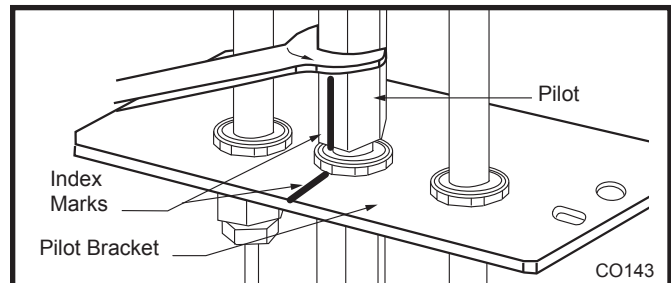

Fig. 69 Remove pilot hood. (Your pilot may have a different appearance.)
- Loosen pilot hood turning counterclockwise using a 7/16" wrench. (Fig. 69) **NOTE:** You may use penetrating oil to prevent pilot hood threads from seizing up.